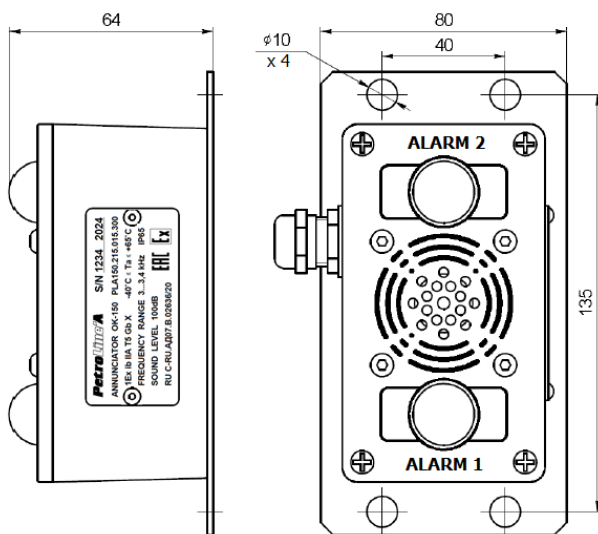

Figure 2. Overall dimensions of the OK-150 with mounting plate
- Basic dimensions at the processing facilities correspond to the dimensions of the OK-150 (see Fig. 2);